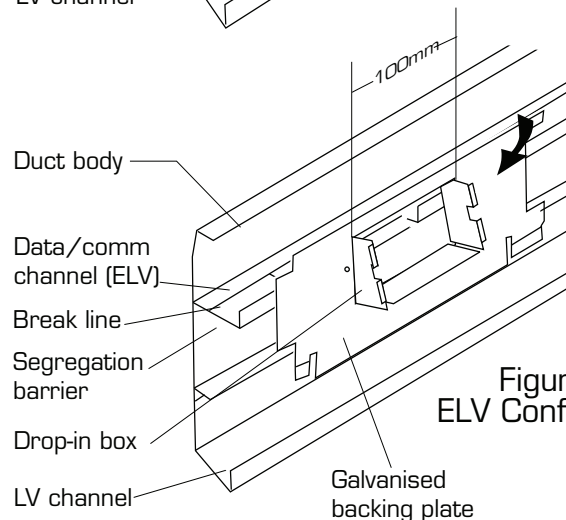

Figure 3.
- 3) For ELV access to the upper channel, the opening in the box faces up. A 100mm wide slot must be cut in the segregation rib of the duct body. (Cut down to the break line and "snap out" the section to be removed.) Refer Figure 3.